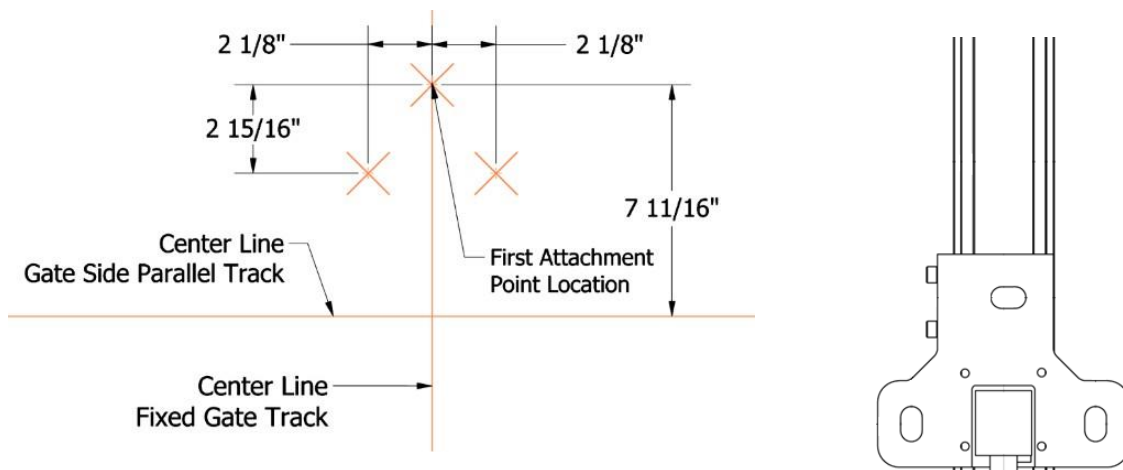

Figure 76: *Figure 76: 1000 lbs Capacity Transition —Three Attachment Points*
- The 1000 lbs capacity transition gate requires three total attachment points—the one noted above is the only one that falls on the center line. Figure 76 shows the location of the additional required attachment points.